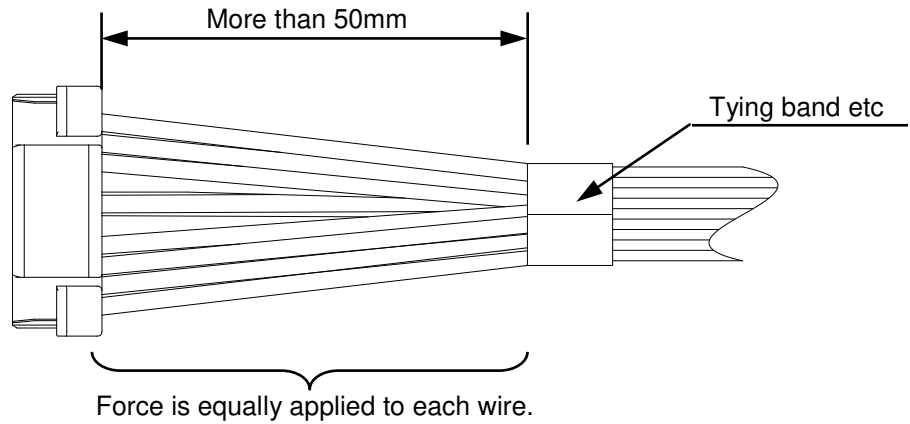

Fig.7-1 Harness is bundled properly
- ① Please bundle the wires at more than 50mm away from connector and uniformize the force applied to each wire. **(Fig.7-1)**